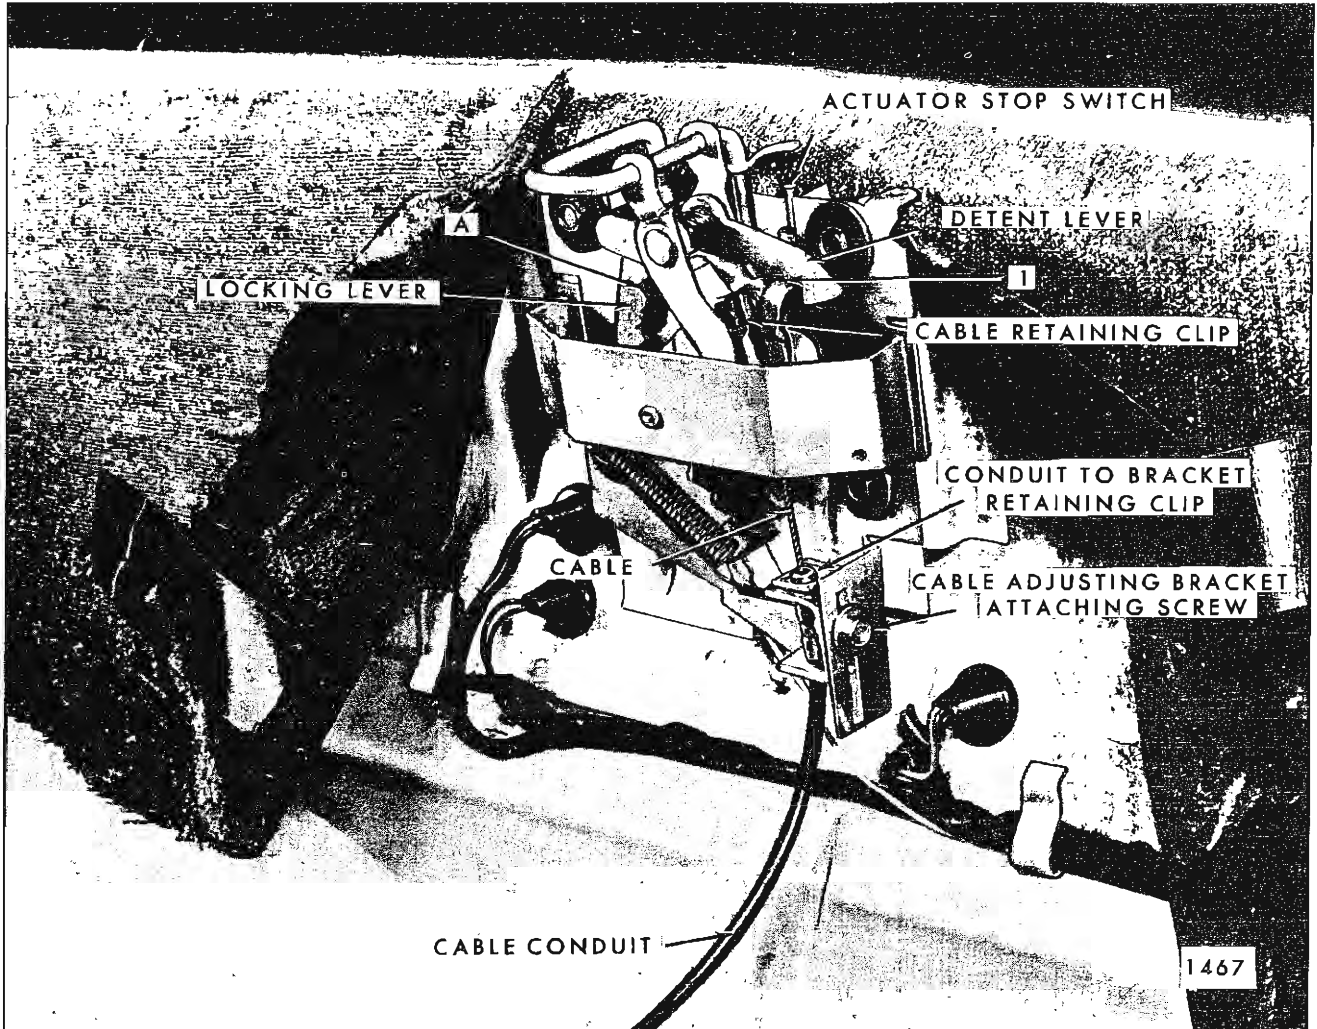
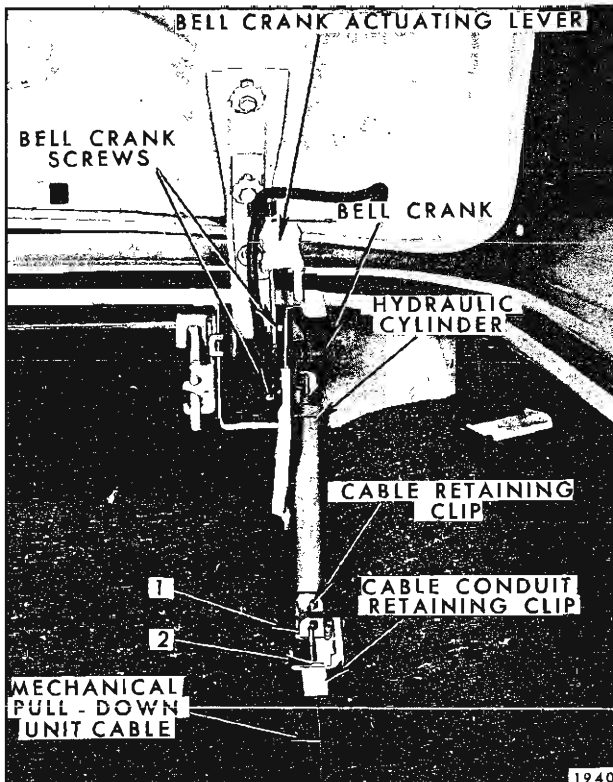

Fig. 8-23—Rear Compartment Mechanical Pull-Down Unit - Cadillac Styles with Option
Fig. 8-25—Mechanical Pull-Down Unit Hydraulic Assembly - Cadillac Styles with Option
slightly to relieve tension from cable and disengage clip securing cable to pull-down control arm (Fig. 8-23).
away from hooked end of pull-down unit cable. Disengage cable from slot in cylinder. Disengage cable conduit retaining clip from support on wheelhouse and remove cable and conduit from support (Fig. 8-25).
2. Repeat this procedure at other end of cable, disengaging clips securing cable to pull-down unit and cable conduit to adjusting bracket (Fig. 8-23), and remove cable from body.
To increase cable tension, position hydraulic cylinder end of cable in the upper slot on the lower end of the cylinder ("1", in Figure 8-25). If more tension, or finer adjustment, is required, loosen cable adjusting bracket attaching screw (Fig. 8-23). Adjust bracket downward (to increase cable travel) and tighten attaching screw.
**IMPORTANT:** The lack of lubrication between the toggle and the detent lever ("1", Figure 8-23) can greatly increase the effort required to trip (unlock) the pull-down unit. Therefore, make certain point of contact between these two levers is lubricated with 630 AAW Lubriplate or its equivalent.